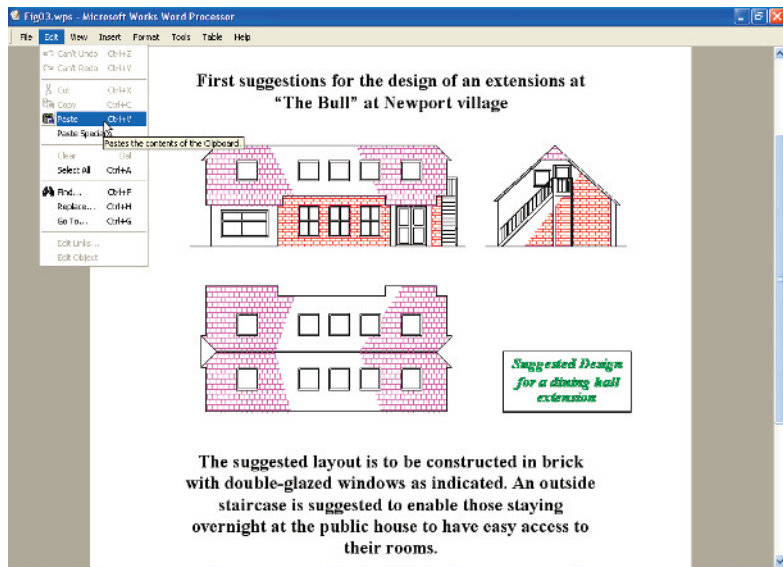

Fig. 10.3 Example – **copying and pasting**
First example – copying and pasting (Fig. 10.3)
4. Open **Microsoft Word** and *click* on **Paste** in the **Edit** drop-down menu (Fig. 10.3). The drawing from the **Clipboard** appears in the **Microsoft Word** document (Fig. 10.3).